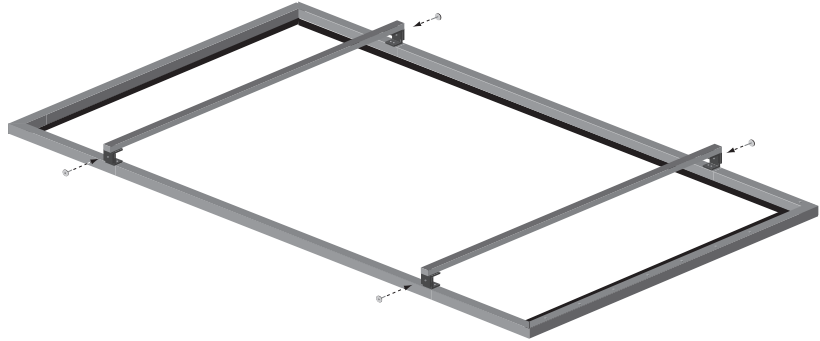

Figure 5: Temporarily Attaching Wall Boards to the Frame
4. Bolt wall boards to brackets using the supplied 3/4" hex head bolts. (see figure 5).